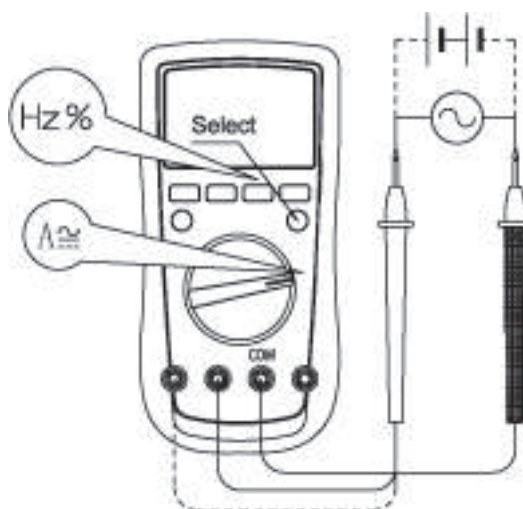

figure 3
B. DC/AC Current Measurement (See figure 3)